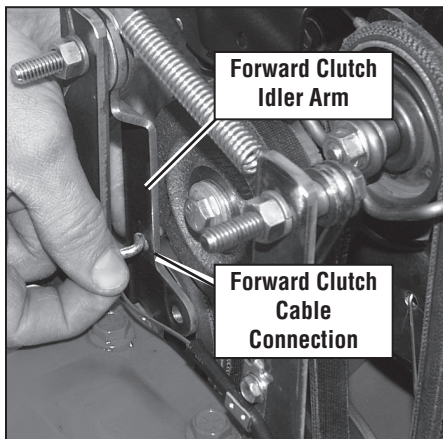

Figure 5-17
from the forward clutch idler arm bracket (Figure 5-17). Note the hole from which you disconnect the cable. It is important that you reconnect the cable to the same hole.
5. Reconnect the forward clutch cable to the correct hole in the idler arm bracket, as shown in Figure 5-17.